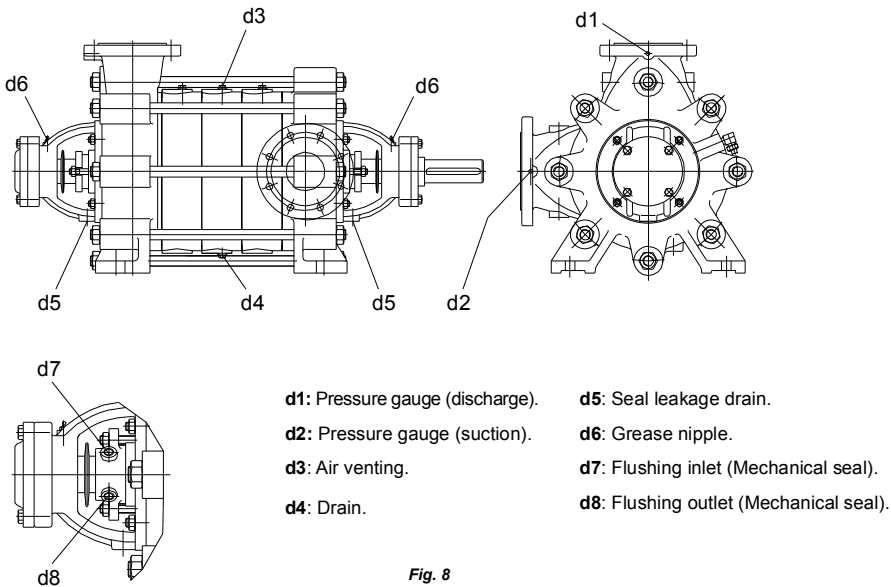

Fig. 8
- Every pump is fitted with connections on the pump casing to drain the pump and on the bearing bracket to evacuate the seal leakage from the stuffing box (Fig. 8). If required the pump drain and seal leakage can be piped to a suitable reservoir. The pump draining piping must be fitted with an isolating valve and both must be suitable for the maximum operating pressure of the pump.
- Cooling, sealing and flushing of seal piping must be connected only to the designated connections located on the pump (See Fig. 8 to 12).